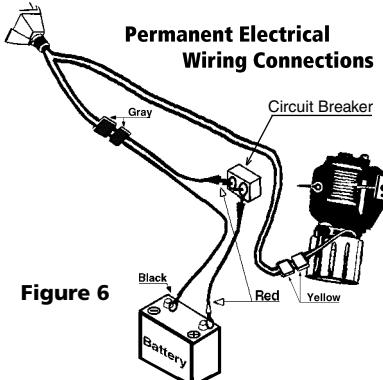

Figure 6
29. Use caution when pulling or lowering a load up or down a ramp or incline. Keep people, pets and property clear of the path of the load. (See Figure 6).